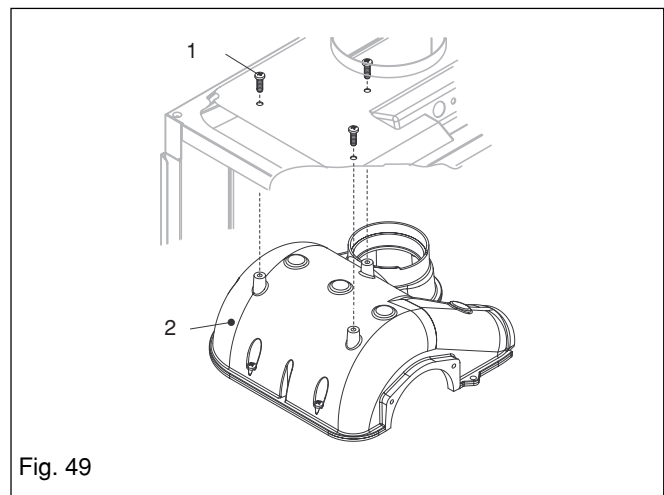

Fig. 49
Fig. 49: unscrew and remove the 3 screws (1) that secure the collector to the air chamber and disconnect the collector (2) from the flue connection. Replace in the reverse order ensuring all seals are intact and located correctly.